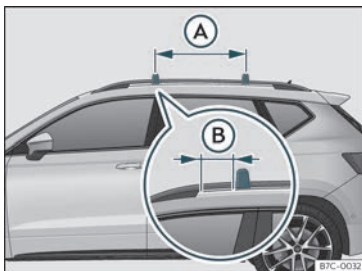

Fig. 123 Attachment points for the roof railings for the roof carrier system.
The crossbars are assembled on the roof railings. The distance between crossbars >>> **Fig. 123** (A) should be between 70 and 90 cm and the distance between the crossbars and the brackets of the roof railings (B) must be 15 cm.